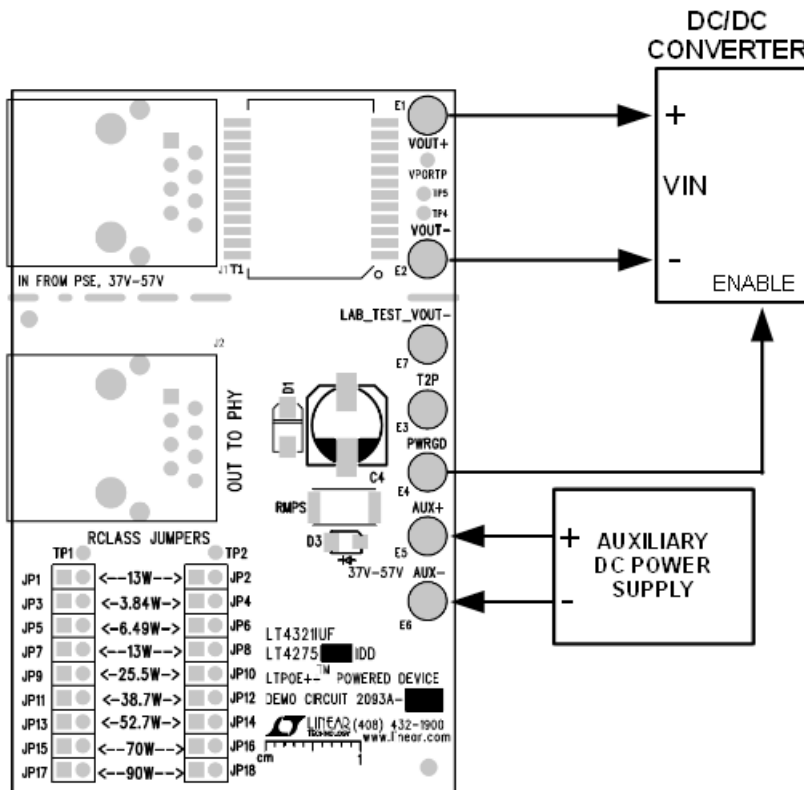

Figure 8. Setup Diagram for the DC2093A-C with a DC/DC Converter and an Auxiliary DC Power Supply
1. Refer to Figure 8 to evaluate the DC2093A-C with a DC/DC converter and an auxiliary DC power supply.